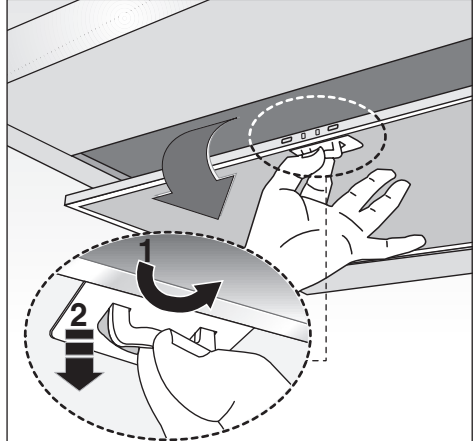

Fig.15
If a connection tube composed of two parts is used, the upper part must be placed outside the lower part. Do not connect the cooker hood exhaust to the same conductor used to circulate hot air or for evacuating fumes from other appliances generated by other than an electrical source. Before proceeding with the assembly operations, remove the anti-grease filter(s) (Fig.15) so that the unit is easier to handle.
-If the cooker hood is supplied with a lower chimney piece that must be fixed to the hood body with screws, remove the anti-grease filters from the hood by acting on the relevant handles (Fig.15).